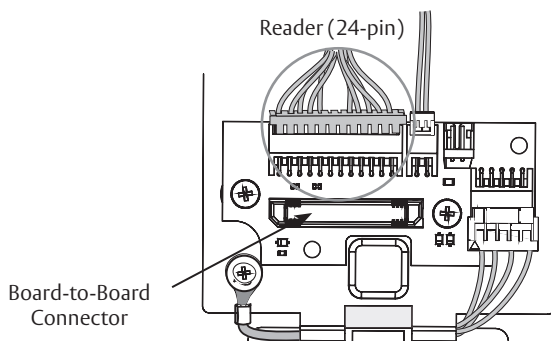

Fig. 22
- h. Secure the following connectors to their respective terminals (Fig. 22):
- l. Secure 24-pin card reader connector. (Figure 22)